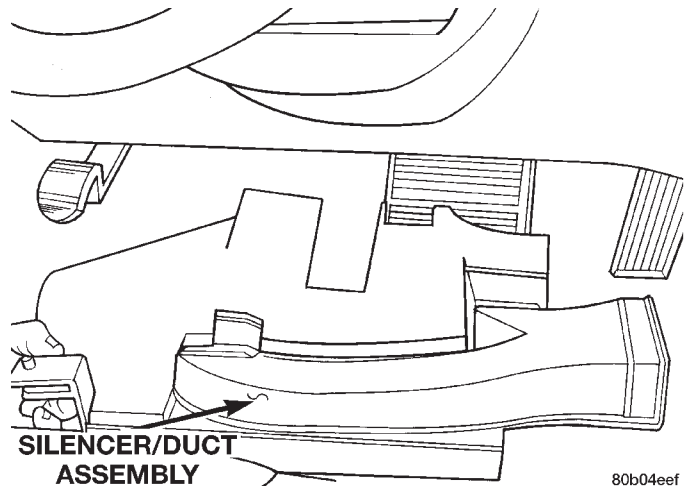

Fig. 12 Panel Removal
(1) Remove under panel silencer/duct assembly (Fig. 12).